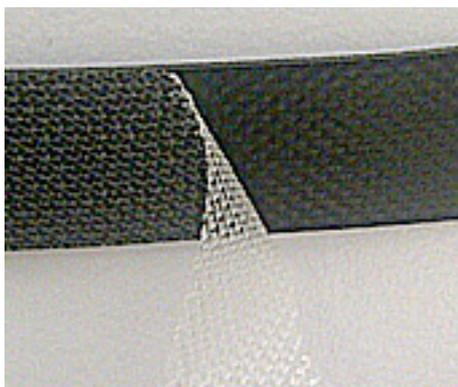

Figure 1-55: Exposing the tacky side of the sealing tape
2. Cut two pieces each 25 cm long, of Scotch 23 splicing tape. Remove the plastic cover to expose the tacky side of the sealing tape as shown in Figure 1-55.